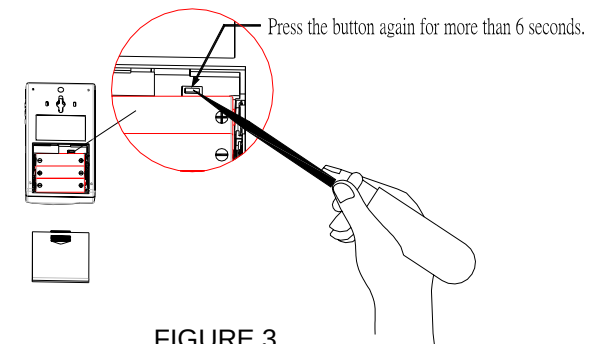

FIGURE 3
Step 4: Upon entering the code learning mode, release the button. Before receiving the code learning command, press and hold the button immediately again for more than 6 seconds. (FIGURE 3) The Sounder will bleep per second. After 6 beeps being heard, all the preset memory will be eliminated.